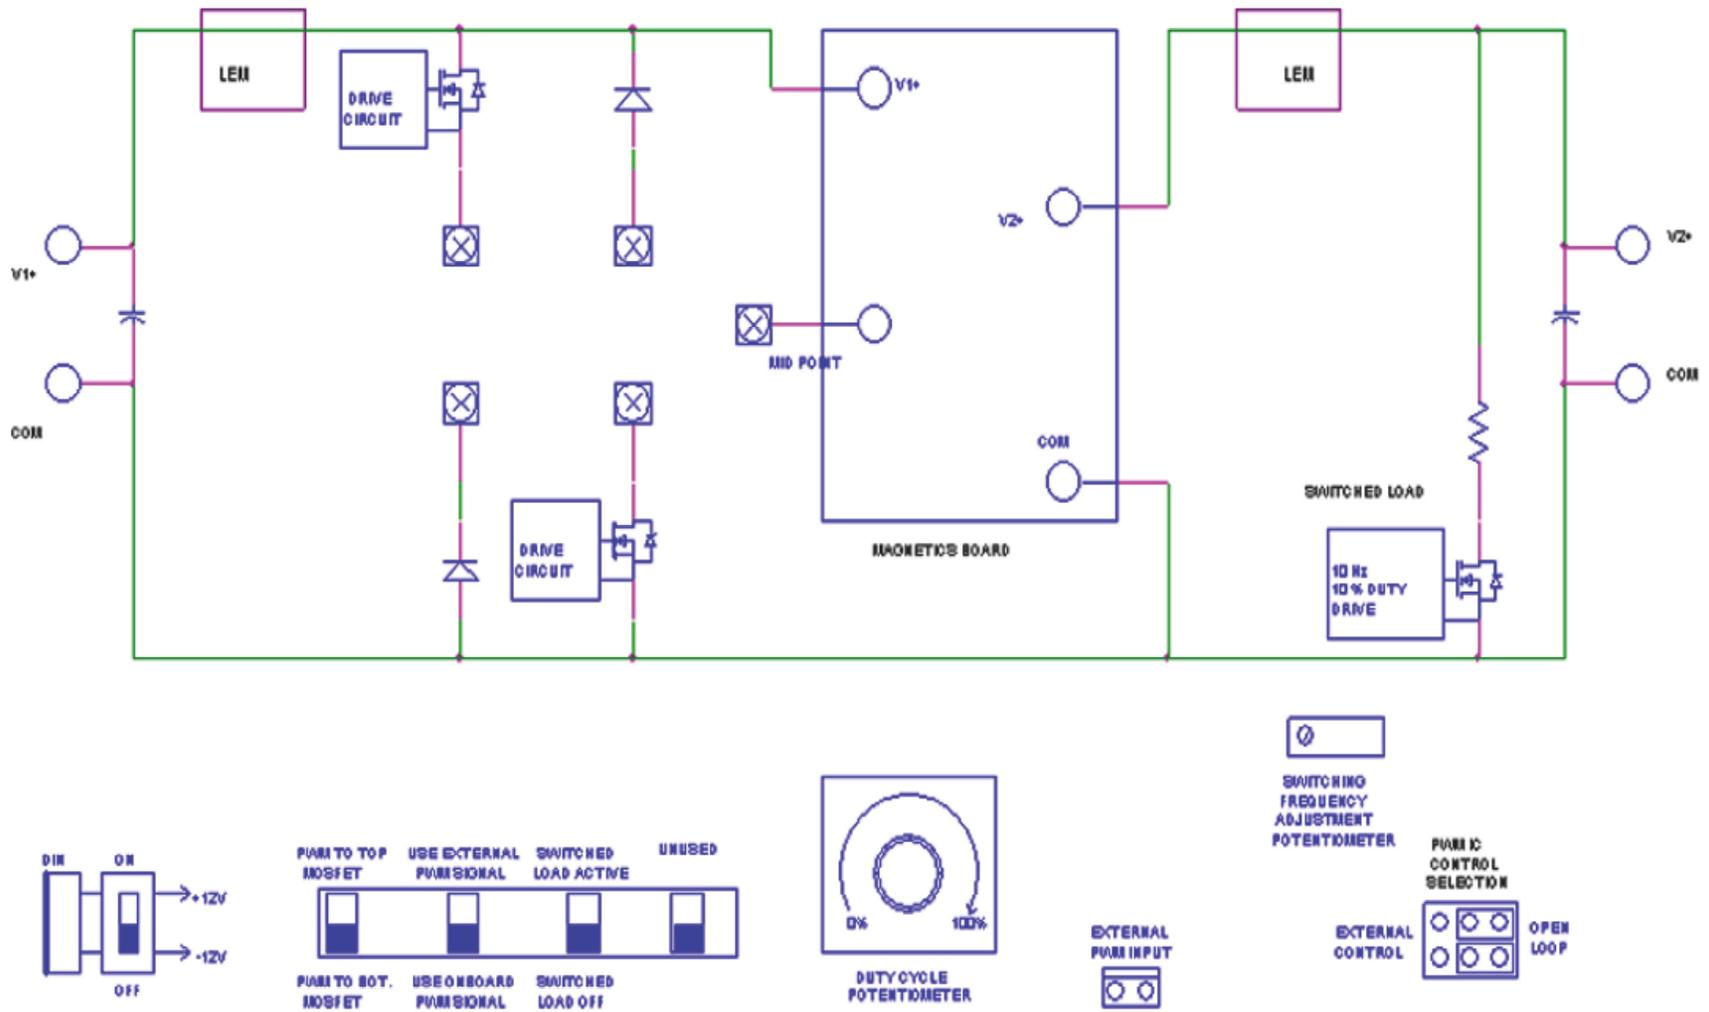
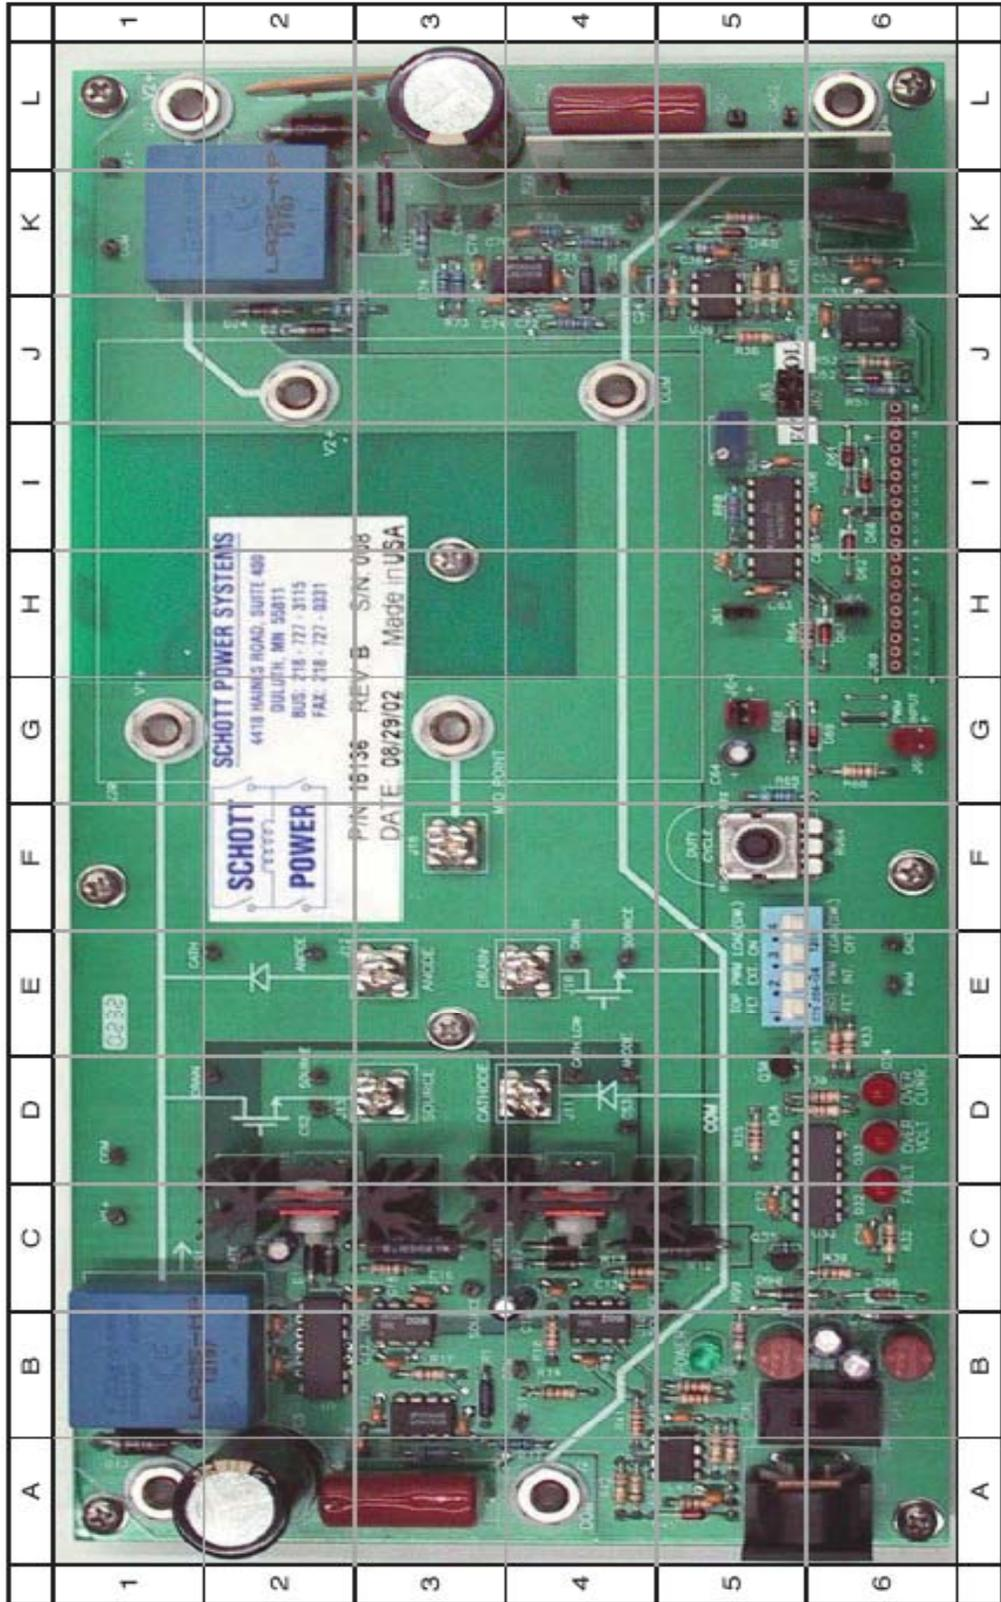

Figure 1.1: Block diagram of Power-pole Board.
Figure 1.2: Power-Pole board.
The basic block diagram of the Power-pole Board is shown in Fig. 1.1 and the actual board is shown in Fig. 1.2. Please note that the locations of the various components on the board are indicated in Table 1.1.
- Connect the positive and negative terminals of a differential probe to terminals CS2 and SOURCE (D-2 in Fig. 1.2) of upper MOSFET. The current sense resistor value is 0.05Ω .
- Connect an oscilloscope probe to the DRAIN and its ground to the SOURCE (E-4 in Fig. 1.2) of the lower MOSFET.
- Connect an oscilloscope probe to terminal CS3 and its ground to the SOURCE (E-4 in Fig. 1.2) of the lower MOSFET. The current sense resistor value is 0.05Ω . The same test points also measure the lower diode current if that is included in the circuit.
- Connect the positive and negative terminals of a differential probe to terminal CATH and ANODE (E-2 in Fig. 1.2) of the upper diode.
- Connect an oscilloscope probe to CATHLOW and its ground to the ANODE of the lower diode (D-4 in Fig. 1.2).
± 12 volts signal supply is required for the MOSFET drive circuits and also the measurement and protection circuits. This is obtained from a wall-mounted isolated power supply, which plugs into the DIN connector J90 (A-5 in Fig. 1.2). Switch S90 (B-6 in Fig. 1.2) controls the signal power to the board. Each time a fault occurs, turn off and turn on this switch to reset the board. The green LED D99 (B-5 in Fig. 1.2) indicates if the +12 V signal supply is available to the board. Fuses F90 (B-5 in Fig. 1.2) and F95 (B-6 in Fig. 1.2) provide protection for the +12 V and -12 V supplies respectively.
Any external load is to be connected across terminals V2+ and COM (L-1 and L-6 in Fig. 1.2). An onboard switched load is provided to facilitate the observation of the transient response of any converter built using the power-pole. Thus it is possible to periodically switch in and out a 20 Ω load (K-4 to K-6 in Fig. 1.2). The frequency and duty ratio of this load is fixed at 10 Hz and 10%.
- Put switch 3 of selector switch bank S30 (E-5 in Fig. 1.2) to the top position (Load (SW) ON).
- Connect the positive and negative terminals of a differential probe to CSLOAD1 and CSLOAD2 (L-5 in Fig. 1.2). This measures the voltage across the 20 Ω resistor.
- Connect the oscilloscope probe to test point V1+(C-1 in Fig. 1.2) and its ground to COM (D-1 in Fig. 1.2).
- Connect the oscilloscope probe to test point V2+ (K-1 in Fig. 1.2) and its ground to COM (L-1 in Fig. 1.2).
LEM current sensors (B-1, K-2 in Fig. 1.2) are provided to measure the input and output currents. The input current sensor is located after the input filter capacitor, and the output current sensor is located before the output filter capacitor. Calibration of the current sensors is such that for 1A current flowing through each, the output is 0.5 V. These signals are amplified by a factor of 2 and are brought out to the daughter board connector J60, for use in feedback current control. Currents through the MOSFETs and output capacitor are measured using current sense resistors. Refer to Table 1.2 for details of the various current measurement test points.
- Connect oscilloscope probe to CS1 (B-1 in Fig. 1.2) and its ground to COM (D-1 in Fig. 1.2).
- Connect oscilloscope probe to CS5 (K-4 in Fig. 1.2) and its ground to COM (L-1 in Fig. 1.2) .
- Connect oscilloscope probe to CS4 (K-3 in Fig. 1.2) and its ground to COM. The current sense resistor value is 0.1 Ω .
The power-pole MOSFETs are driven by high side drivers IR2127. These drivers have in-built overcurrent protection using a current-sense resistor for each MOSFET (see locations C-3 and C-5 in Fig. 1.2). The voltage across these sense resistors can be observed using test points provided on the board.